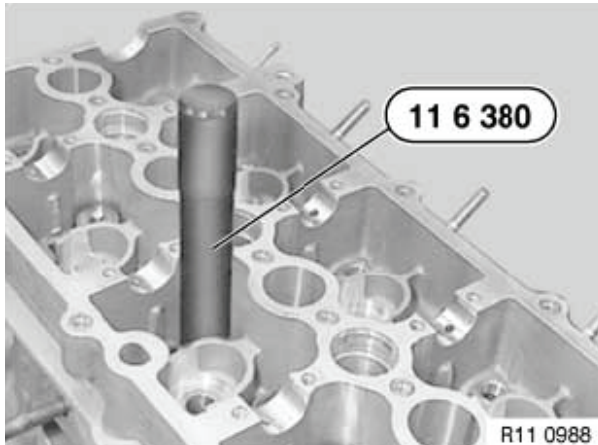

Figure 5-31
6. Press valve stem seal into place with special tool OEM No. 11 6 380 until it is seated (**Figure 5-31**).